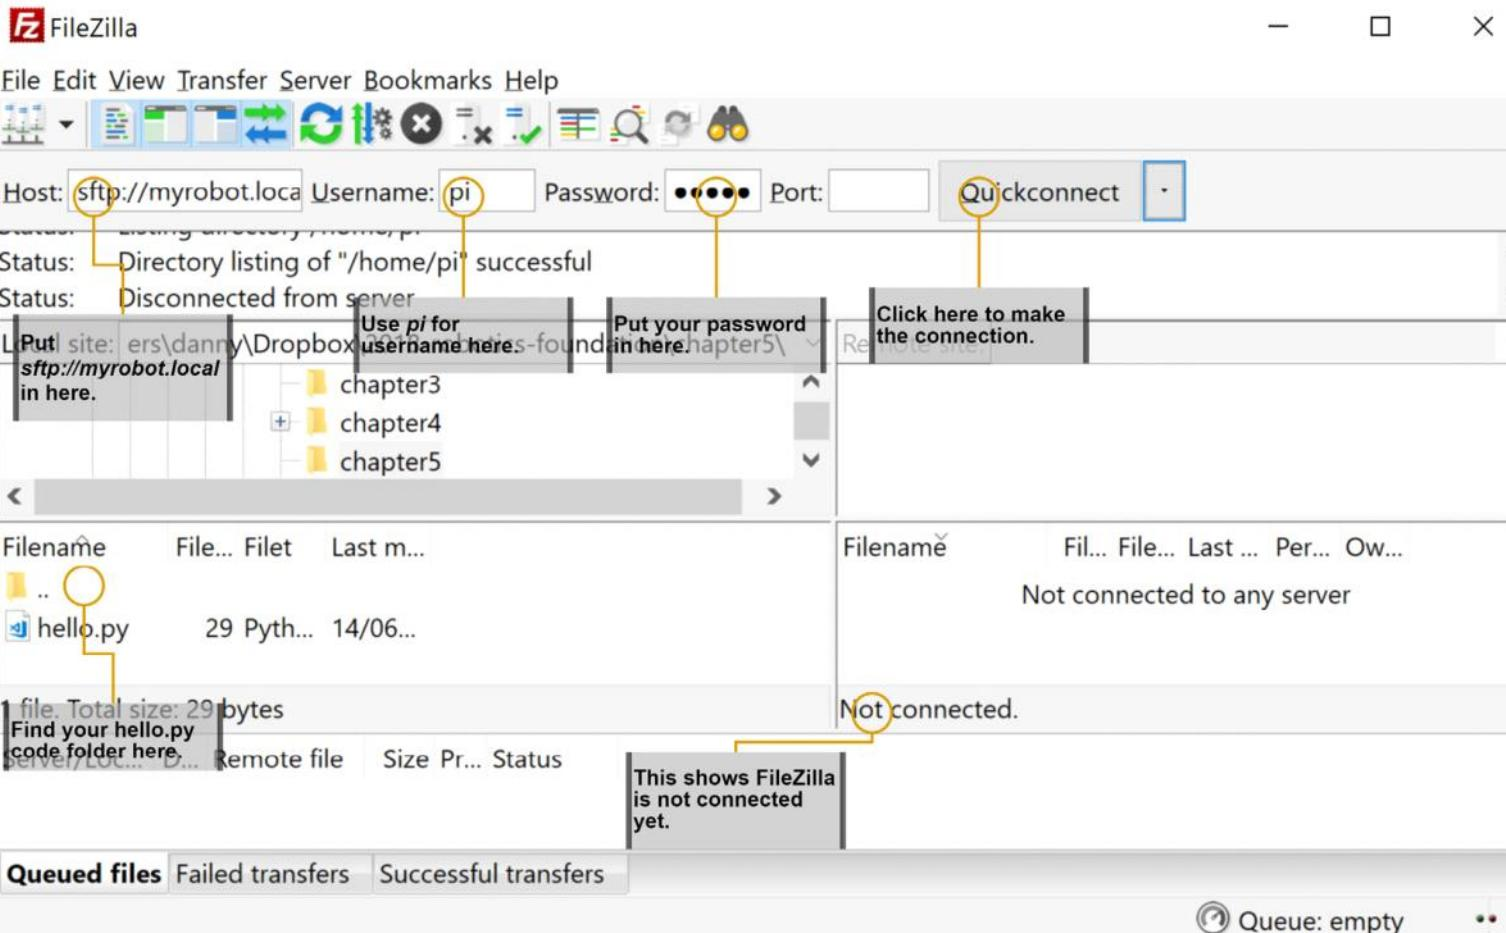

Figure 5.1 – FileZilla
4. Plug in and power up your Raspberry Pi. You will notice at the bottom of the right-hand panel (Figure 5.1), FileZilla says **Not connected**.